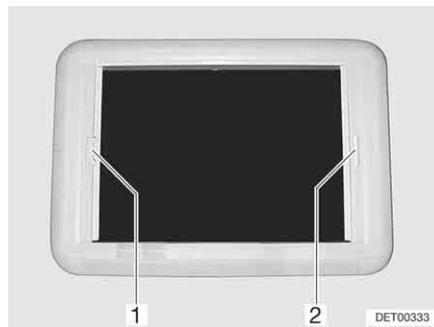

Fig. 68 Heki skylight, blind lock
- Pull blind at the handle (Fig. 68,2) to the opposite handle of the insect screen (Fig. 68,1) and allow to engage.
- With your other hand, push the unlocking bar on the handle of the insect screen (Fig. 68,1) towards the handle. The lock is released.
- Pull insect screen at the handle (Fig. 68,1) to the opposite handle of the blind (Fig. 68,2) and allow to engage.
- Hold the insect screen (Fig. 68,1) by the handle and push the unlocking bar towards the handle. The lock is released.